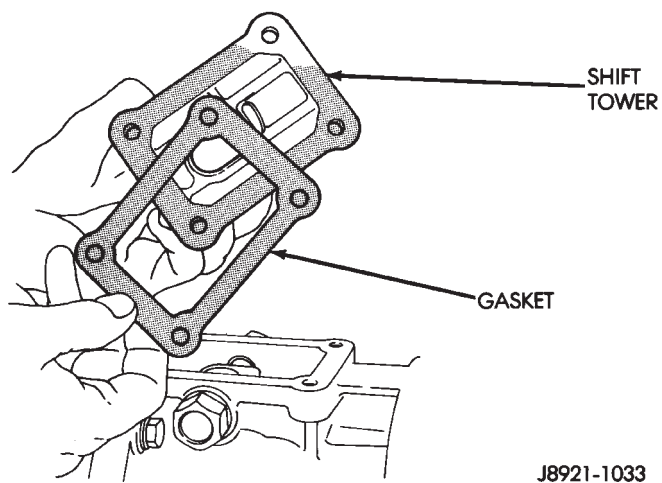

Fig. 127 Shift Tower Gasket Installation
(28) Position new shift tower gasket on adapter housing (Fig. 127).